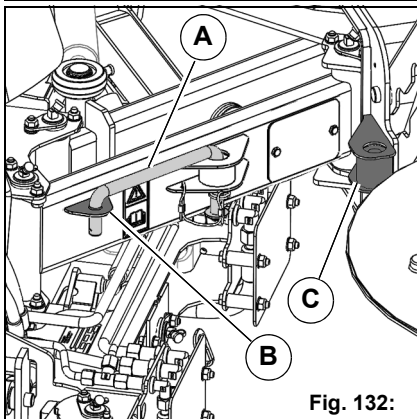

Fig. 132:
The bow **Fig. 132-A** of the transport protection device is located on the brush arm of the 3rd rotating brush.
- Position **Fig. 132-B** = for work mode
- Position **Fig. 132-C** = for transport mode
Before a transport journey, for safety reasons the 3rd rotating brush must be locked with the bow **Fig. 132-A**. Mount the bow in position **Fig. 132-C**.